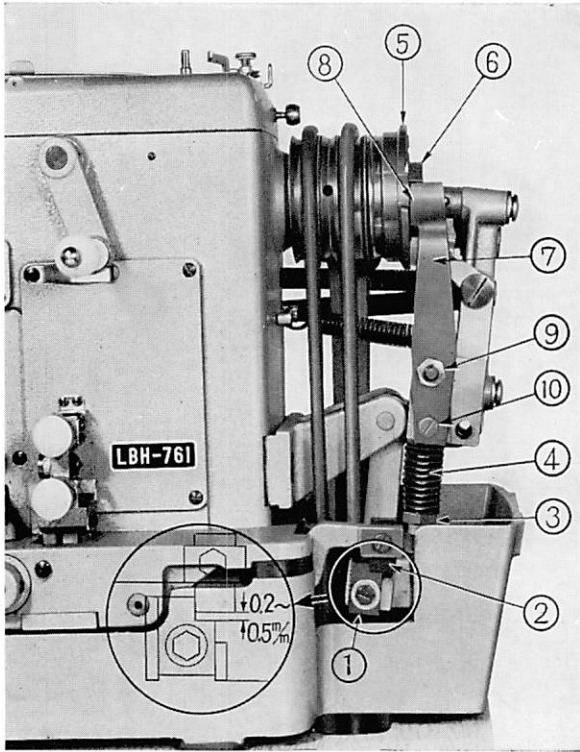

Fig. 28
### 1) Adjusting the stop-motion lever catch (Fig. 28 ①)
The installing position of the stop-motion lever catch should be such that when the stop-motion lever is pulled by hand to the rear to assume the same condition as the high speed sewing, the machine will assume a low speed status by turning the handle and the connection of the catch and the latch (Fig. 28 ① and ②) is released by one mount. At this position, the space between the center mount of the catch ① and the lower part of latch ② should be 0.2~0.5 mm (about 1/50").
### *2) Adjusting the stop link rod pressure spring (Fig. 28 ④)*
This spring is securely tightened by a double nut but when this nut becomes loose and droops down, the height of the needle becomes irregular when the machine stops. Tighten this nut until the screw protrudes 10~15 mm (3/8~9/16") from the lower surface of the nut (Fig. 28 ③).
When the crescent-shaped pressure spring inside the driving pulley is broken, remove the 2 tension springs attached to the stop-motion lever, remove the stop-motion lever, and then by removing the brake cam Fig. 28 ⑤ and the stop cam Fig. 28 ⑥ and change these cams with new ones. If you want to install a new spring, please consult our representatives and use company tools.
The brake lever plate spring (Fig. 28 ⑦) contacts the brake cam (Fig. 28 ⑤) every time the machine stops and functions as a friction brake. If it's used for a long time, it will wear out. To replace this spring when it's worn out, remove the set screws (Fig. 28 ⑨ and ⑩) and change it with a new spare spring. Set the stop-motion lever to the slow running position and make the space between the forward tip of the spring (Fig. 28 ⑧) and the brake cam to 0.5~0.8 mm (about 1/50").